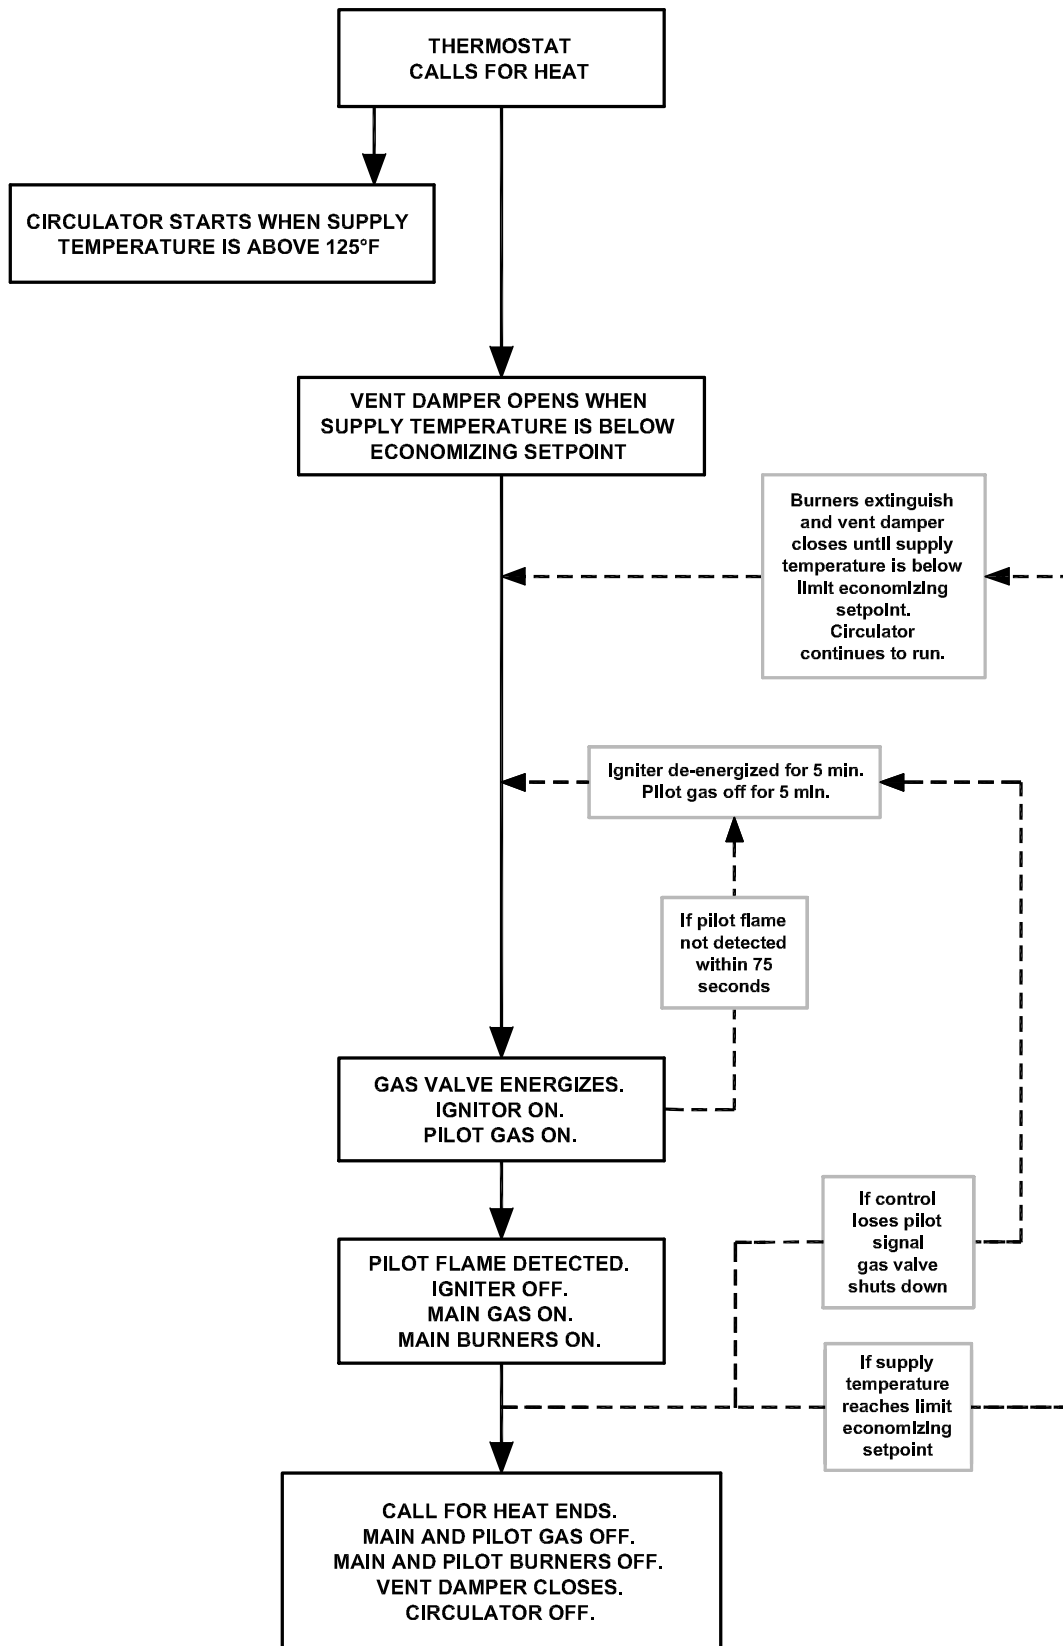

Figure 6.8: Intermittent Ignition System Operating Sequence
13. Use the sequence description in Figure 6.8 in Section 6 (Electrical) to follow light-off and shutdown sequences and to assist in diagnosing problems. If the boiler does not function properly, consult Section 8, Troubleshooting.